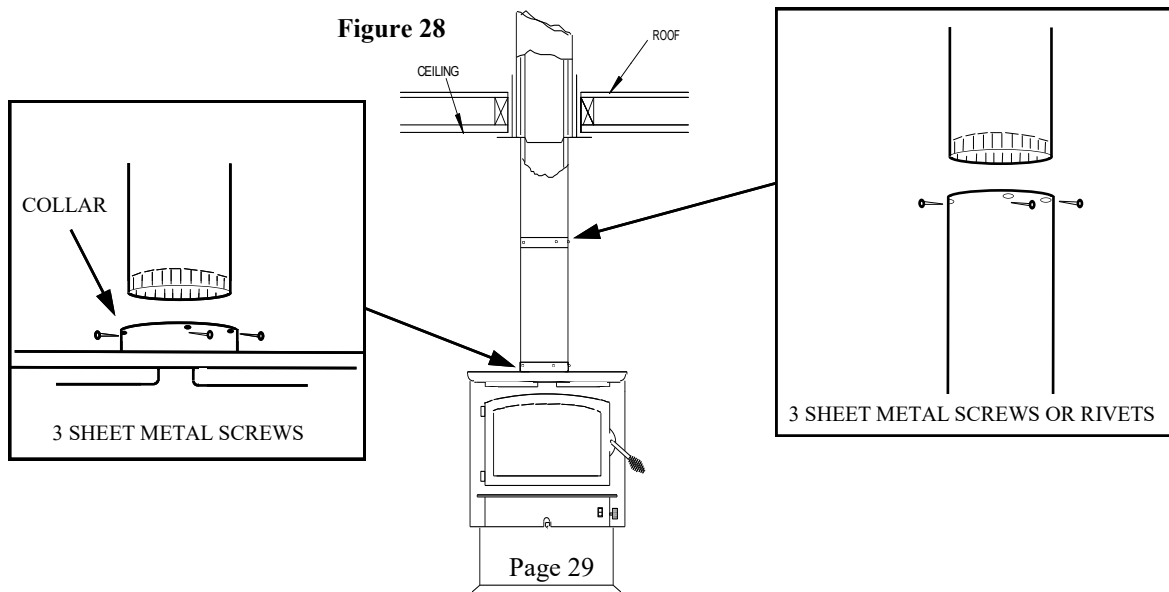

Figure 28
4. Using only double wall chimney connector listed in this manual (See Page 13), connect heater to chimney by following chimney manufacturer's installation instructions exactly. (See Figure 28).